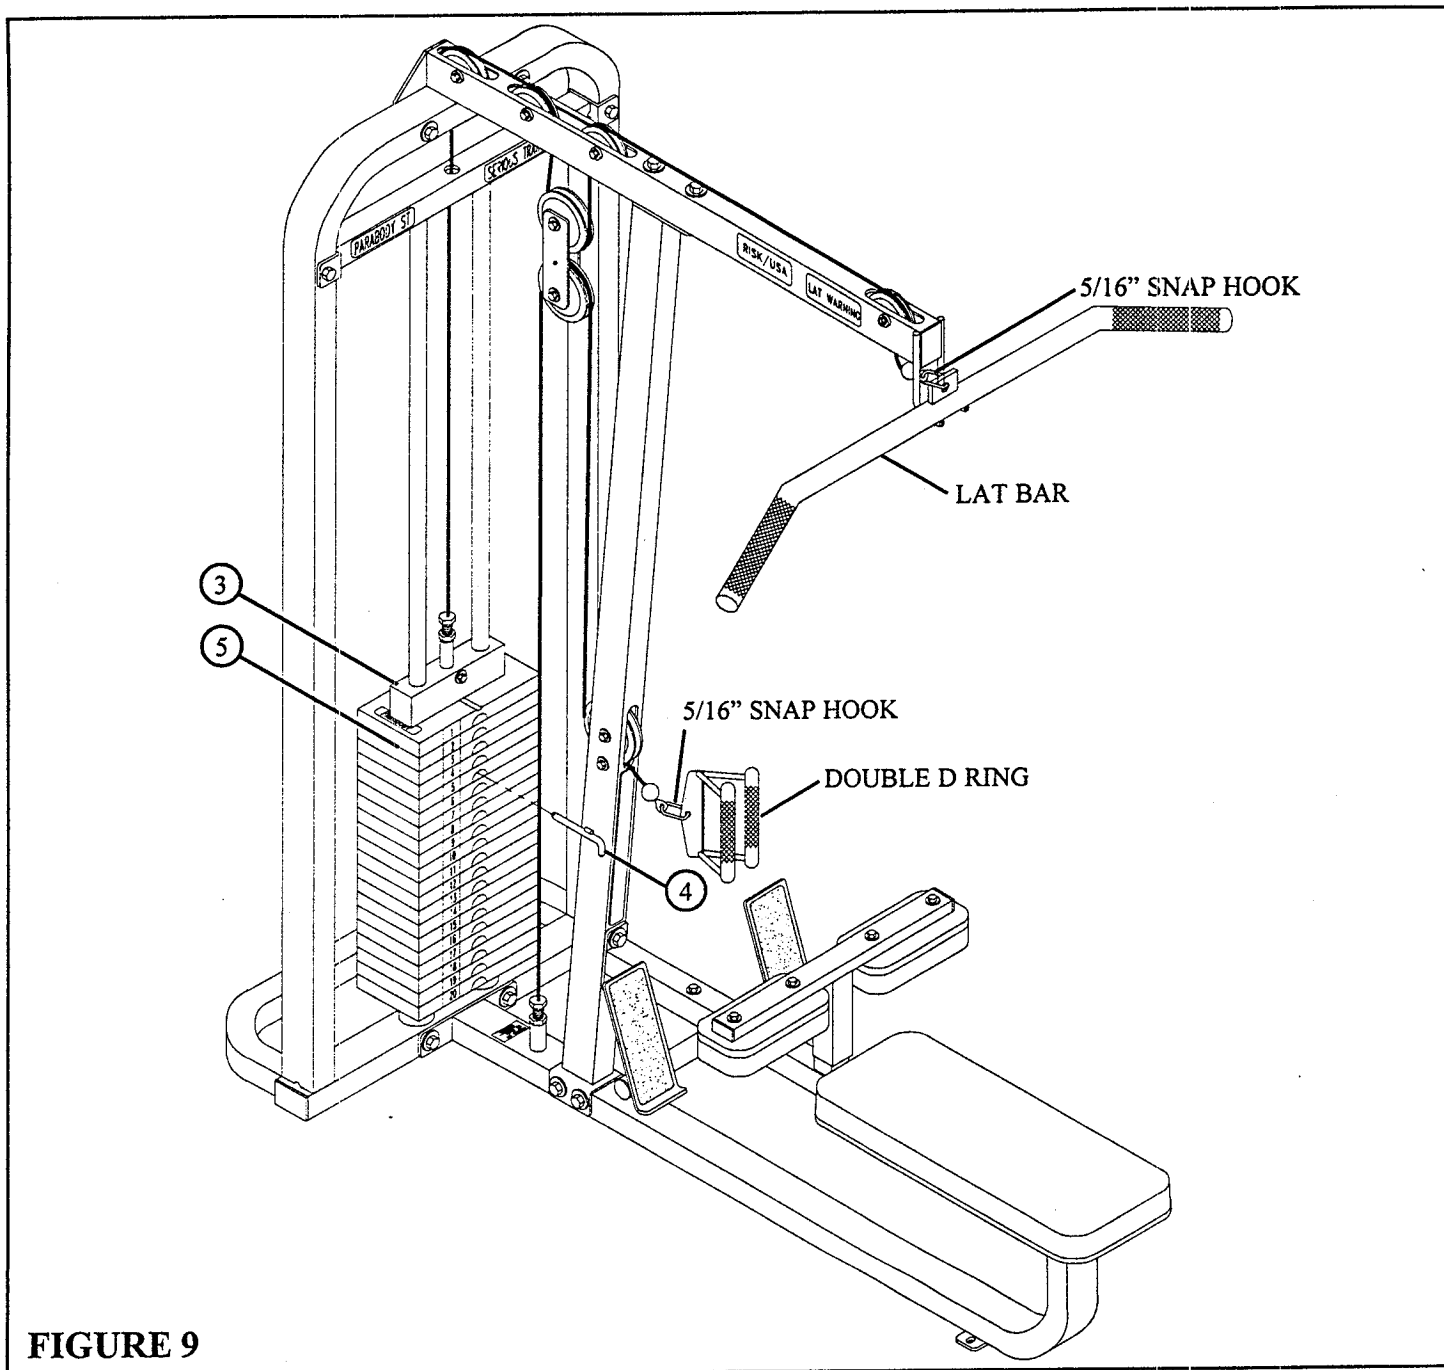

FIGURE 9
- A. Attach CHROME LAT BAR & DOUBLE D CHROME HANDLE to ball ends of cables using 5/16" SNAP HOOKS. See FIGURE 9.
- B. If the HEAD PLATE (3) does not sit on top of the first WEIGHT PLATE (5), push the head plate down, insert the SELECTOR PIN (4) and perform several repetitions on the machine. This will relax the cable system and prevent the HEAD PLATE (3) from lifting up.
- C. If after completing STEP B the HEAD PLATE (3) still does not sit on top of the first WEIGHT PLATE (5) or if there is excess slack in the cable system, adjust the threaded end of the CABLE accordingly and retighten the jam nut.